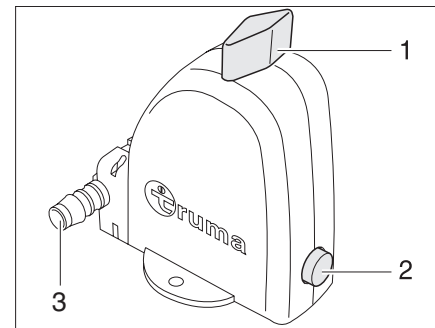

Fig. 166 Safety/drainage valve of the boiler - Operation position
The boiler is equipped with a safety/drainage valve (Fig. 166). The safety/drainage valve prevents water in the boiler from freezing, when there is frost and the heater is not switched on. If there is a danger of frost (at approx. 3 °C ambient temperature), the water is drained intermittently at overpressure via a drain neck. The safety/drainage valve cannot be closed manually until the ambient temperature lies within the frost-proof range (approx. 7 °C ambient temperature).
The drainage neck (Fig. 166,3) of the safety/drainage valve has to be free of dirt (e.g. leaves, ice) at all times.
- Turn the knob (Fig. 166,1) 90° lengthwise to the safety/drainage valve.
The push button (Fig. 166,2) trips. The boiler is drained to the outside by the drainage neck (Fig. 166,3) of the safety/drainage valve.
- Turn the knob (Fig. 166,1) 90° crosswise to the safety/drainage valve.
- Push in the pushbutton (Fig. 166,2).